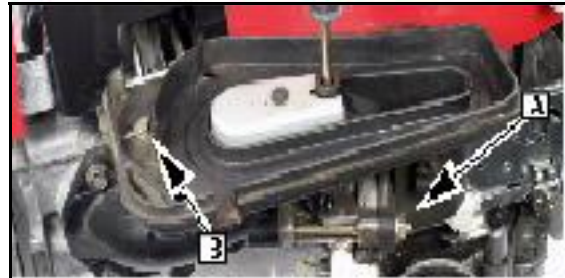

Fig. 22
5. Remove the two nuts ([A] Fig. 22) that secure the air filter housing to the carburetor mounting studs.
6. Remove the supporting bolt ([B] Fig. 22) in the air filter housing.
6. Install air cleaner housing supporting bolt (See [B] Fig. 22). Torque to values listed. **SEE SECTION 14- ENGINE SPECIFICATIONS.**